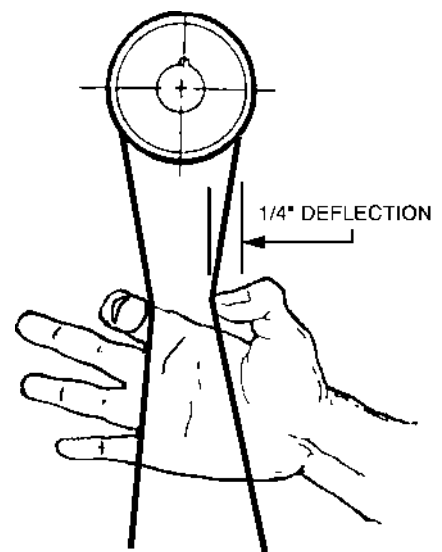

**FIGURE 6**
3. Using a straight edge, align the motor pulley (D) and cutterhead pulley (E) as shown Figure 6. The motor plate can be moved for alignment by loosening the set screws (C) in the motor plate (B) as shown in Figure 5.
4. Assemble the belts to the two pulleys, Figure 6. Adjust for the proper belt tension by raising or lowering the motor plate (F), Figure 7, then tighten the nuts (G). Proper tension is obtained when there is approximately 1/4" deflection of the center span of the pulleys by using light finger pressure, Figure 8.